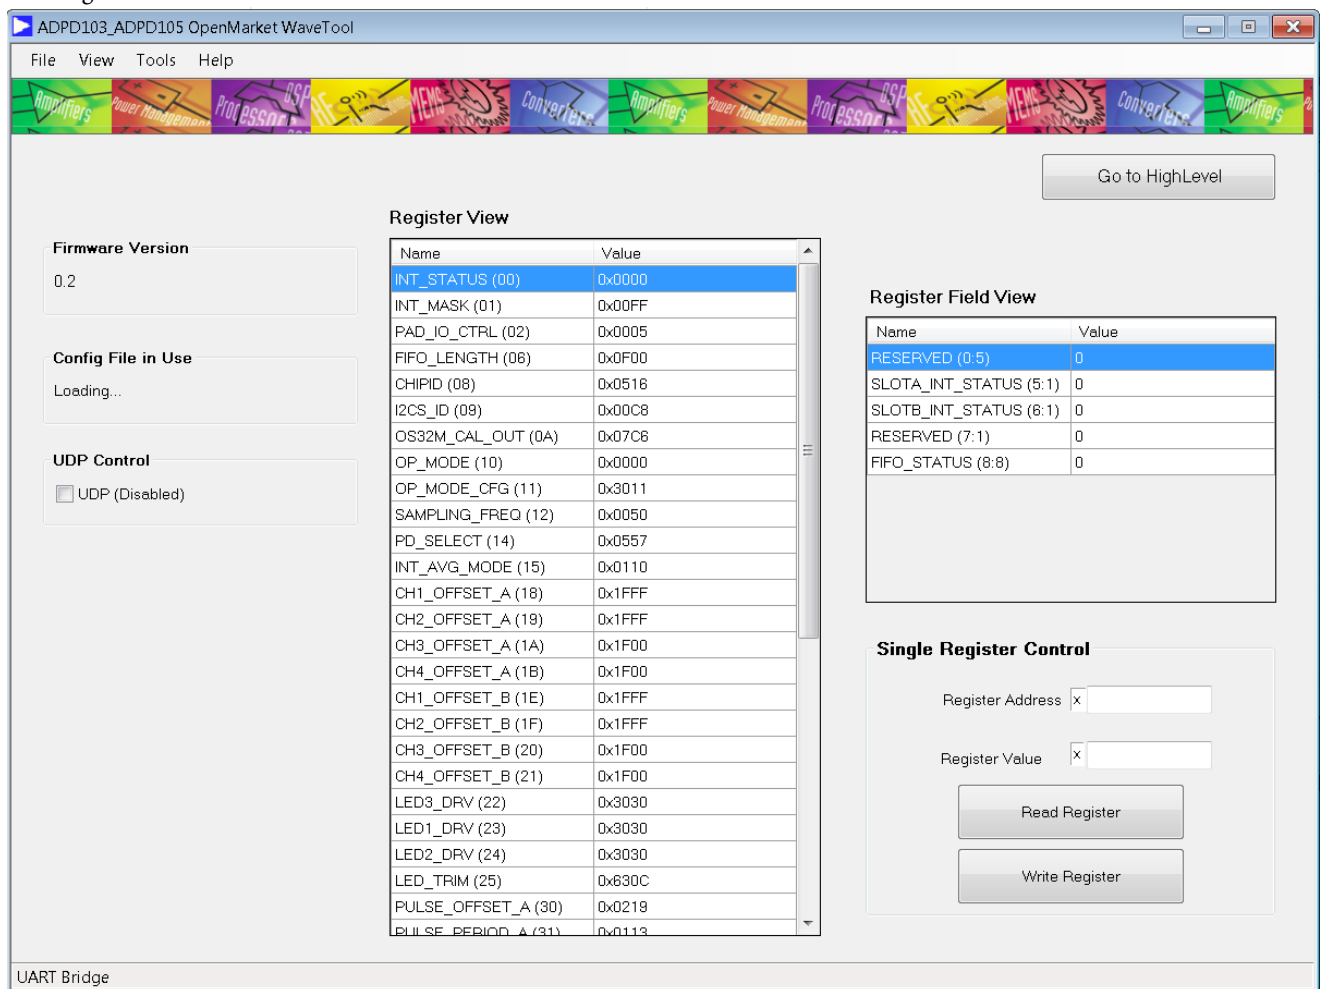

Figure 8. RegisterLevel Window
The main window has two different modes: register level (**RegisterLevel**) and high level (**HighLevel**), shown in Figure 8 and Figure 16, respectively.
Figure 8 shows the **ADPD105** configuration window in the **RegisterLevel** window. The following controls and descriptions are listed in the configuration window:
- **Register Field View** shows how the register is subdivided into fields that determine how each bit field is used. For example, Figure 8 shows the PAD_IO_CTRL, Register 0x02, is composed of the bit fields INT_POL, INT_DRV, and INT_ENA to configure the operation of the INT pin.